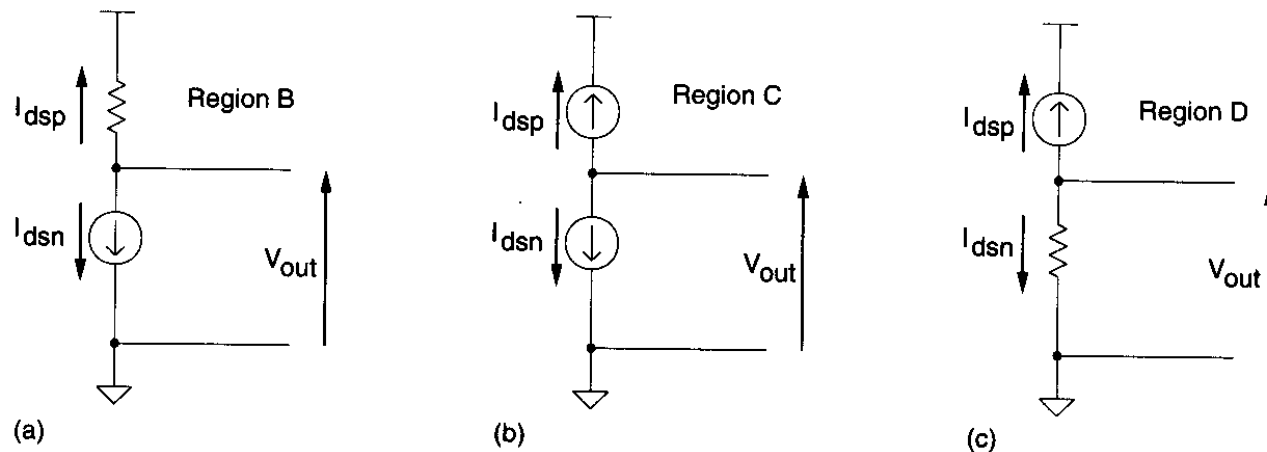

FIGURE 2.14 Equivalent circuits for operating regions of a CMOS inverter
- The equivalent circuit in this region can be represented by a resistor for the p-transistor and a current source for the n-transistor as shown in Figure 2.14(a).
- Its equivalent circuit is shown in Figure 2.14(b).
- **Region D:** defined by $\frac{V_{DD}}{2} < V_{in} < V_{DD} + V_{tp}$, where the p-device is in saturation while the n-device is in the nonstaturated region. (see Figure 2.14(c) for its equivalent circuit)